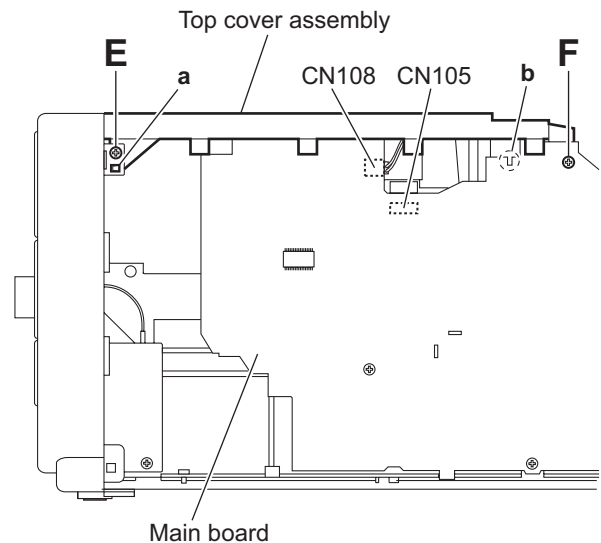

Fig.5
- From the right side of the main body, disconnect the card wire from the connector CN105 on the main board. (See Fig.5.)
- Disconnect the wire from the connector CN108 on the main board. (See Fig.5.)
When connecting the wire, pass it through the slot **b** of the main board as before. (See Fig.5.)